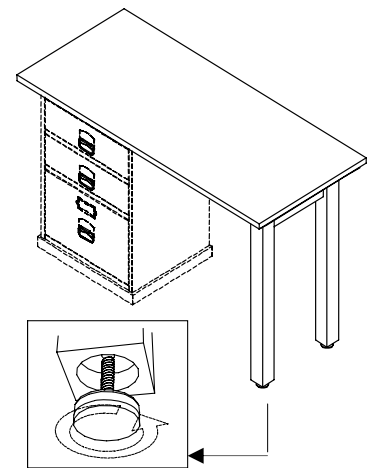

Fig. 3
4. If the floor is uneven, adjust the recessed levelers found underneath each leg. To do this, carefully grasp the leg and elevate it slightly to provide access to the levelers. Turn the levelers until adequate contact is made with the floor. (Fig. 3)